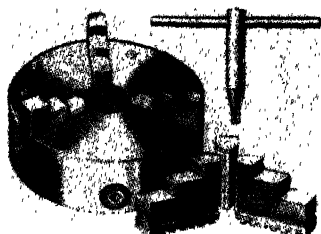

Fig. 15-3. A 3-jaw universal chuck and key. (South Bend Lathe Works)
*The Universal Chuck* (Fig. 15-3). Round and hexagonal work may be chucked quickly in this type of chuck since all three jaws move simultaneously (all together) and automatically center the work within a few thousandths of an inch. This type of chuck will usually center work within 0.003 in. when new, but when the scroll becomes worn, this degree of accuracy cannot be expected.